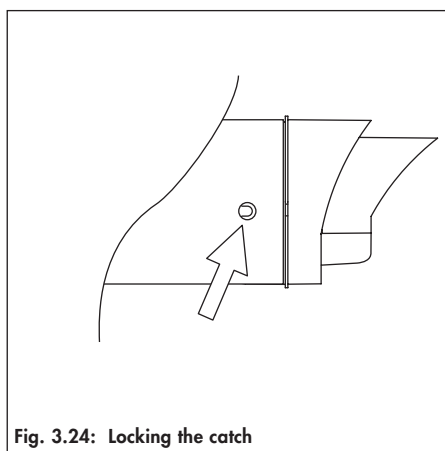

Fig. 3.24: Locking the catch
- Push the flue duct and the terminal back into the air duct and lock the two catches (fig. 3.24).
- Push the flue duct with the terminal back in the air duct. Carefully push the flue duct back into the sleeve of the pipe or bend behind it. Lock the two catches (fig. 3.24).